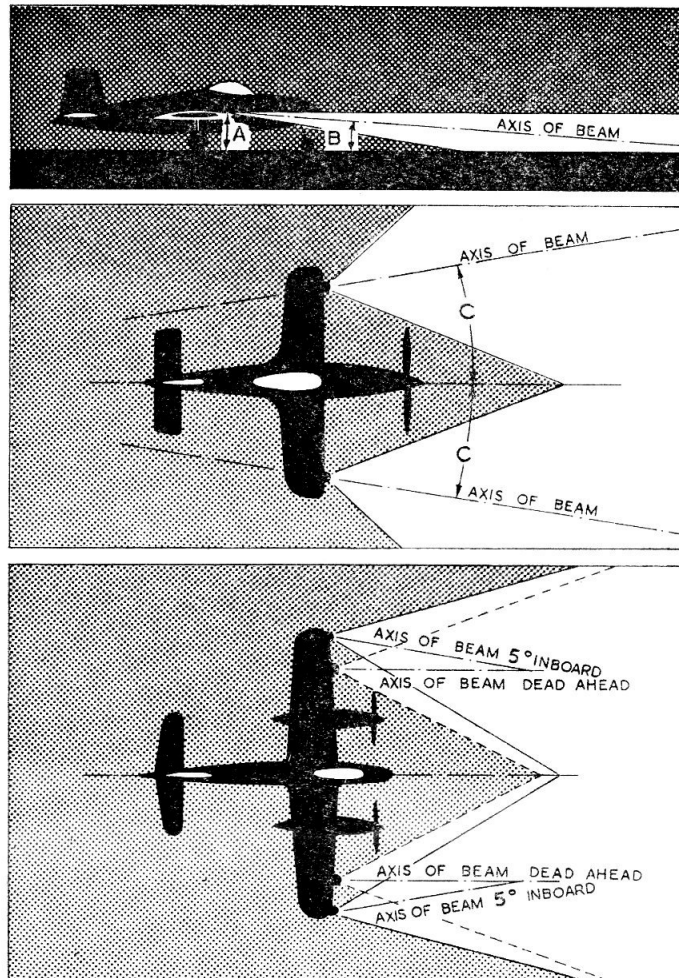

Fig. 2. Installation diagram
7. With the aircraft in its normal taxiing attitude, the axis of the lamp should be directed downwards at a small angle B (fig. 2): the angle should be approx. $A/4$ degrees, where A is the height, in feet, of the lamp above the ground.
8. With single-engined aircraft, the axis of the lamp should be turned outboard at an angle C (fig. 2). This angle is usually approx. 12 degrees but may be smaller if the lamp is mounted more than half-way out towards the wing tip.